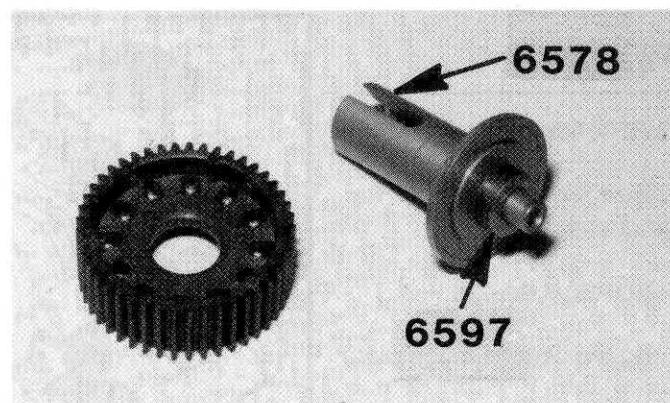

Fig. 29
□ Fig. 29 Clean all the silicone grease off your hands and push one of the #6597 5/32 x 5/16 bushings from bag B into the center of the #6580 gear. **CAUTION:** there are three bushings that have the same outside diameter, but different hole sizes. Make sure you use the #6597 bushing that fits onto the left hand hub, as shown.